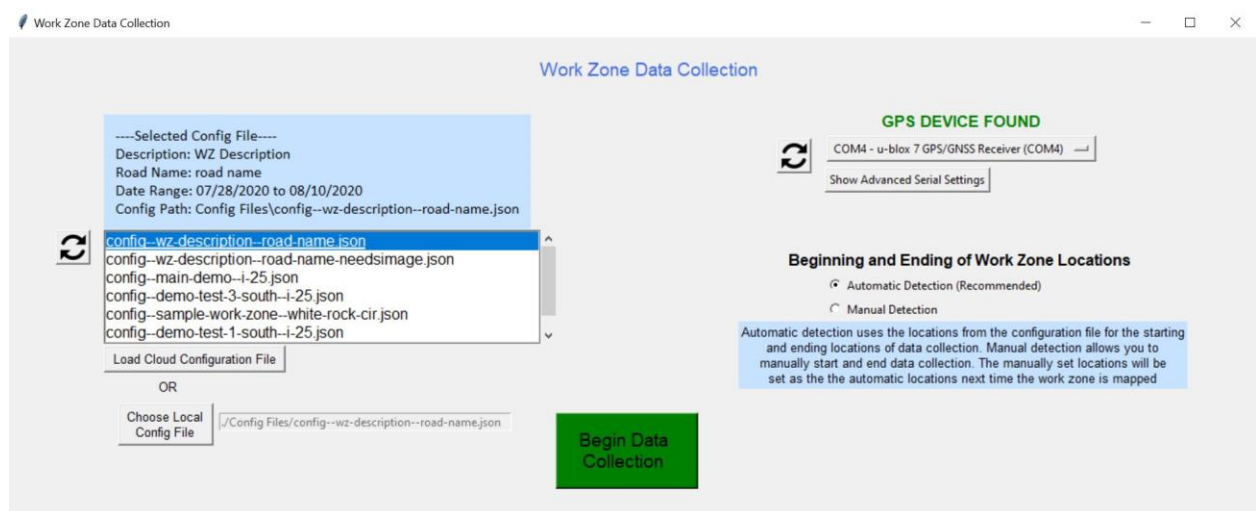

Figure 7 Initialize data collection tool
- Type in: 'python WZDC_tool.py' - you should see a window appear as in Figure 7